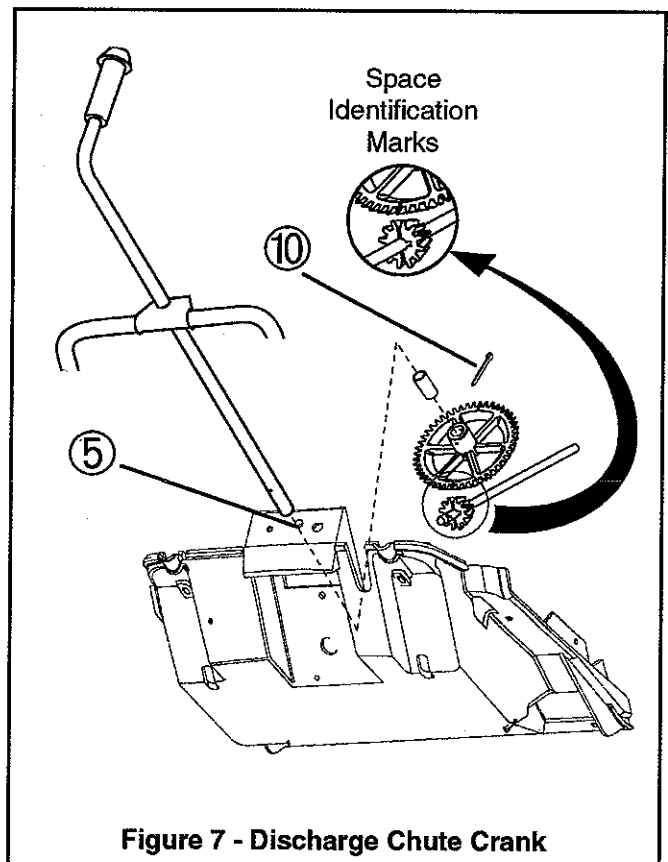

Figure 7 - Discharge Chute Crank
4. Place spacer and 48T gear so that gear meshes with 12T pinion at tooth and space identification marks. Figure 7.
5. Insert chute crank assembly through hole in chassis, spacer and 48T gear so that knob points up. Figure 7.